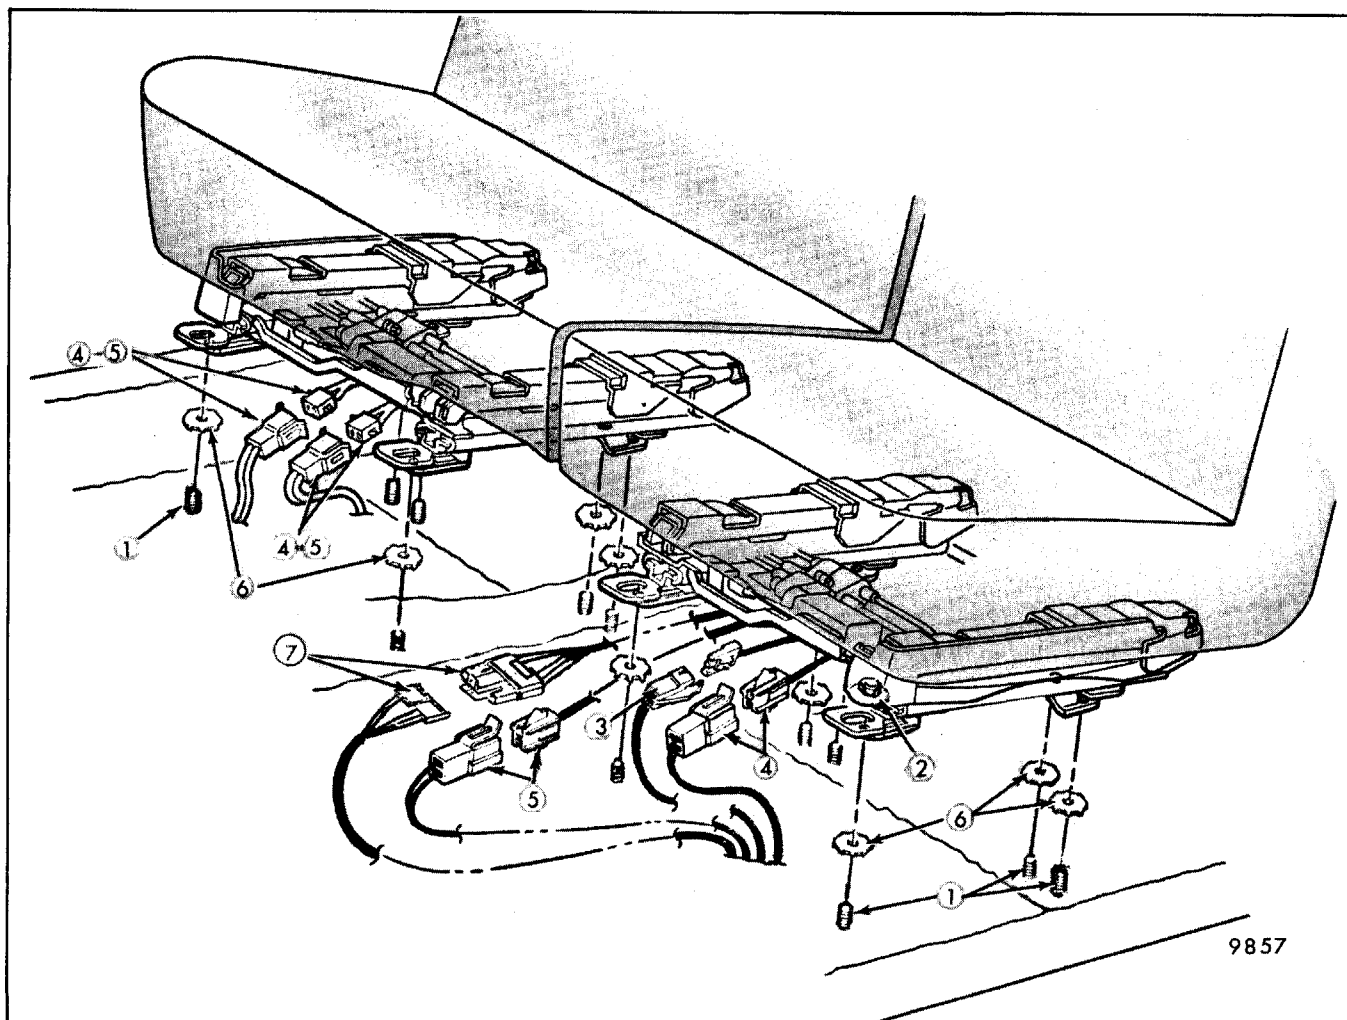

Fig. 9-45 - A, B and C Style Power Seats - 45-55 Seat Shown
2. Figure 9-45 - A,B and C Style Power Seats